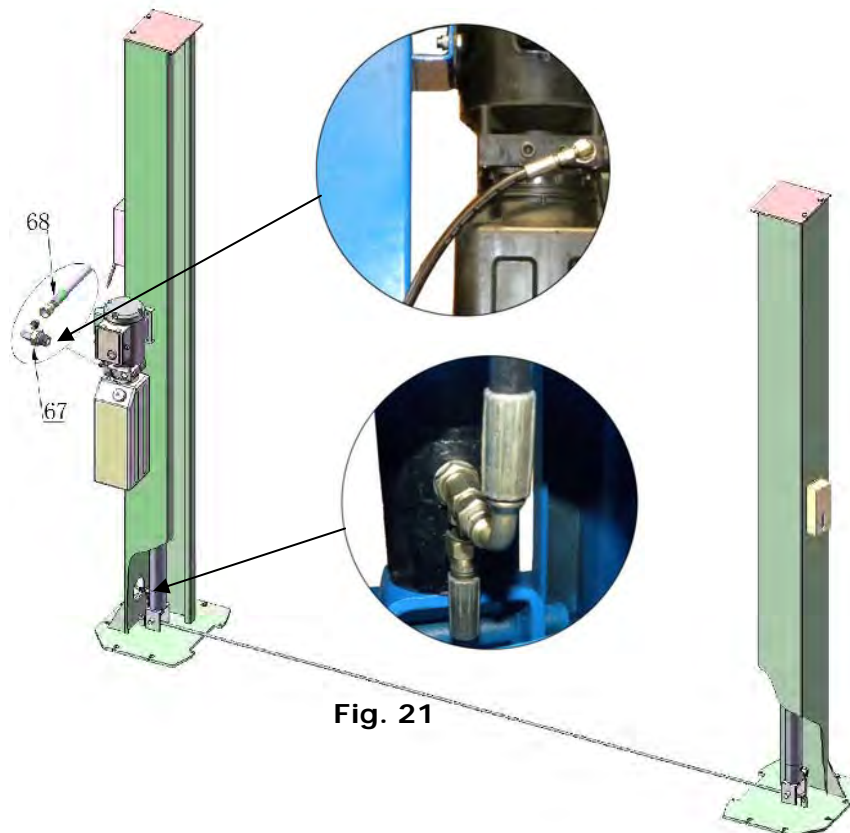

Fig. 21
K. Install Hydraulic Power Unit and Oil Hose Assembly. (See Fig. 21).